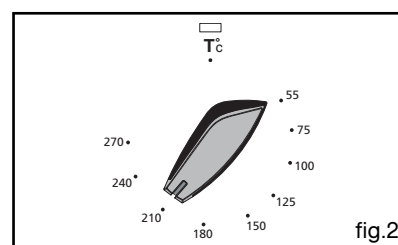

fig.2
**• Multifunctionele ovenschaal (fig.2)**